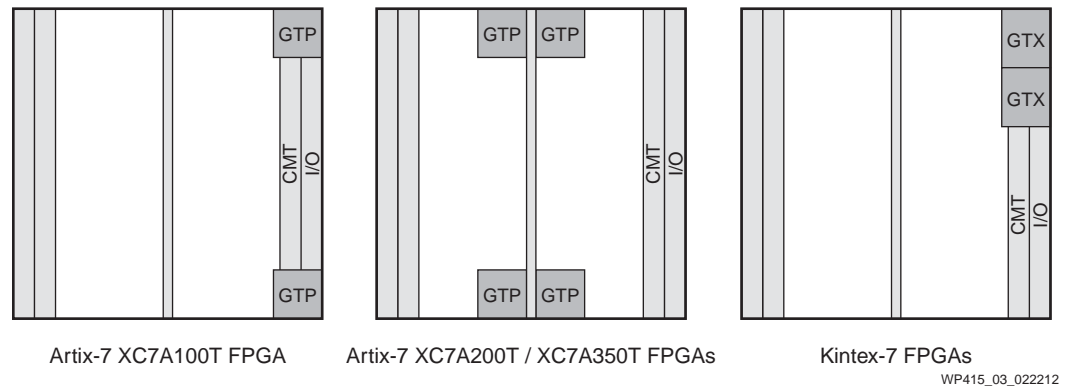

Figure 3: Location of Transceivers in Artix-7 and Kintex-7 Architectures
Transceivers in 7 series FPGAs are arranged in Quads. A Quad is a cluster or set of four transceiver channels that share certain resources. The location of the Quads varies depending on the device targeted. The GTP transceivers in the Artix-7 XC7A100T device occupy a portion of the I/O and CMT column on the right side of the device, similar to the location of the GTX transceivers in Kintex-7 FPGAs. The GTP transceivers in the Artix-7 XC7A200T and XC7A350T, however, are located nearer the center of the device, adjacent to the global clocking column, allowing multiple transceivers and a high I/O count in the same package. Figure 3 shows the different device layouts.
- While there are four transceiver Quads in the XC7A200T, XC7A350T, and XC7K325T devices, the location of the Quads relative to the horizontal center of the device varies due to the different device layouts illustrated in Figure 3.